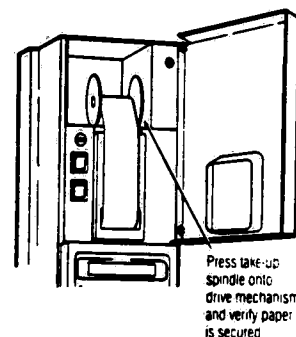

FIGURE 4-9 – Take-up Spindle In Place
13. Press take-up spindle back onto the drive mechanism and allow motor to rotate spindle to verify paper is secured to take-up roll (Figure 4-9).